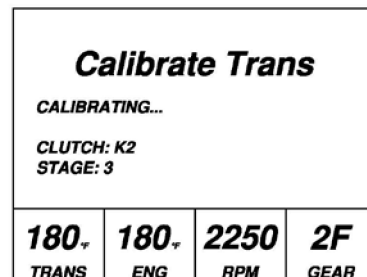

Figure 6
11. The cal sequence will take a few minutes as it runs through 7 clutches; K1, K2, K3, K4, KV, KR and WK (Figure 6). The current clutch and stage are displayed on screen.